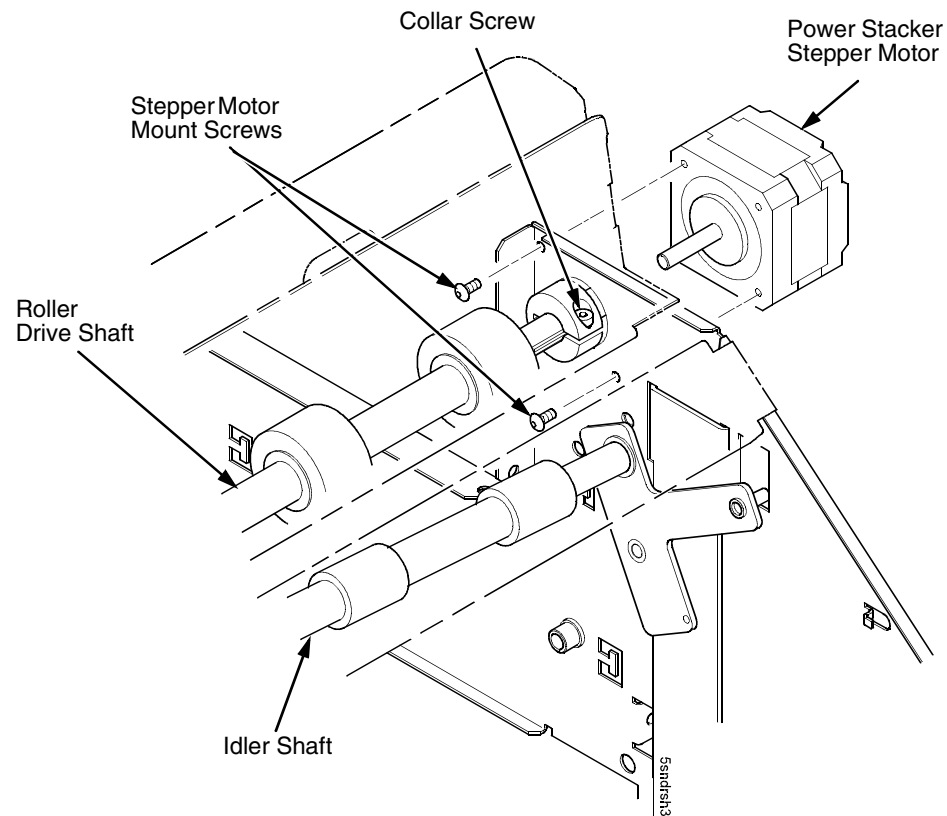

Figure 90. Power Stacker Stepper Motor
4. Move the idler shaft enough to expose the lower mount screw of the power stacker stepper motor. (Figure 90.)
6. Using an M-2 Allen wrench, remove the two screws securing the stepper motor to the elevator. (Figure 90.)
7. Using a 9/64 inch Allen wrench, loosen (do not remove) the collar screw securing the collar to the roller drive shaft. (Figure 90.)